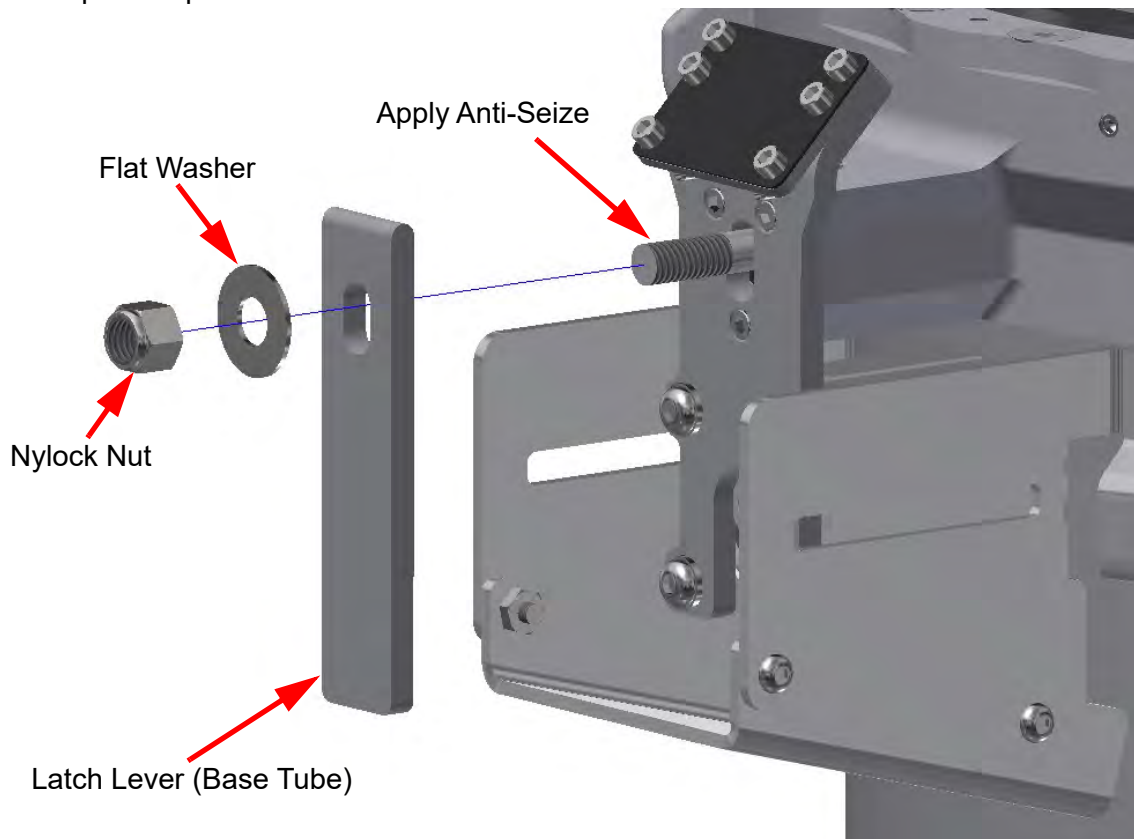

Figure 8-22 Assemble Components
6. Apply anti-seize to threads of both pins on base tube collar as shown in Figure 8-22.